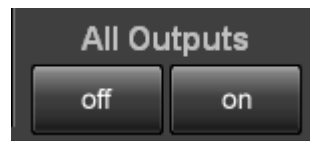

Figure 4.4-1 All Outputs Button
1. Touch [On] as shown in Figure 4.4-1.
1. Touch [off] as shown in Figure 4.4-1.